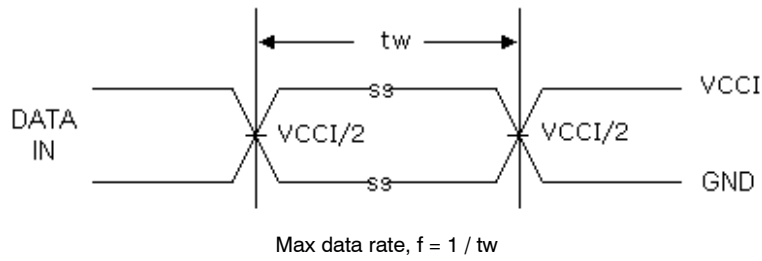

Figure 10. Maximum Data Rate
16. Maximum data rate is specified in megabits per second with all outputs switching, *(see Figure 10)*. It is equivalent to two times the F-toggle frequency, specified in megahertz. For example, 100 Mbps is equivalent to 50 MHz.